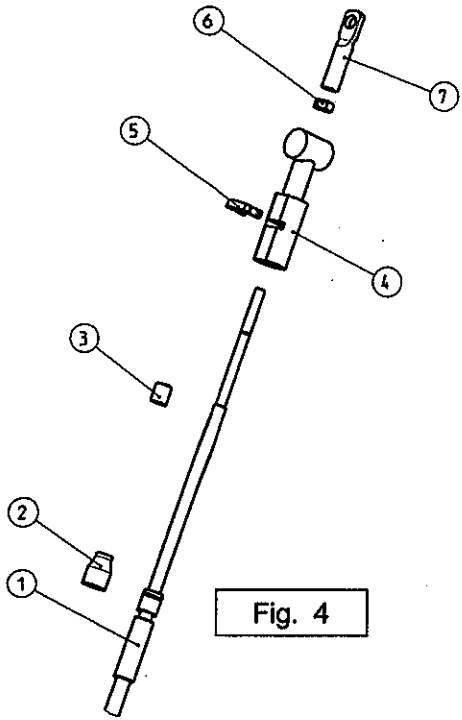

Fig. 4
1. **Use of F02 - F08 universal cables (see Fig. 4):** Remove the protection cover (3) and the sealing (2) from the cable. Insert the cable connector (4) to the limit stop and insert the cable clamp block (5) in its slot. Screw the nut (6) and the cable end (7) on the threaded cable rod.
Before use, check if the installation has been performed correctly, by moving the lever forward and backward, and verify that cables allow all the available stroke. In case of use of F02 or F08 universal cables, adjust the stroke by screwing or unscrewing the cable end (7) (see Fig. 4).